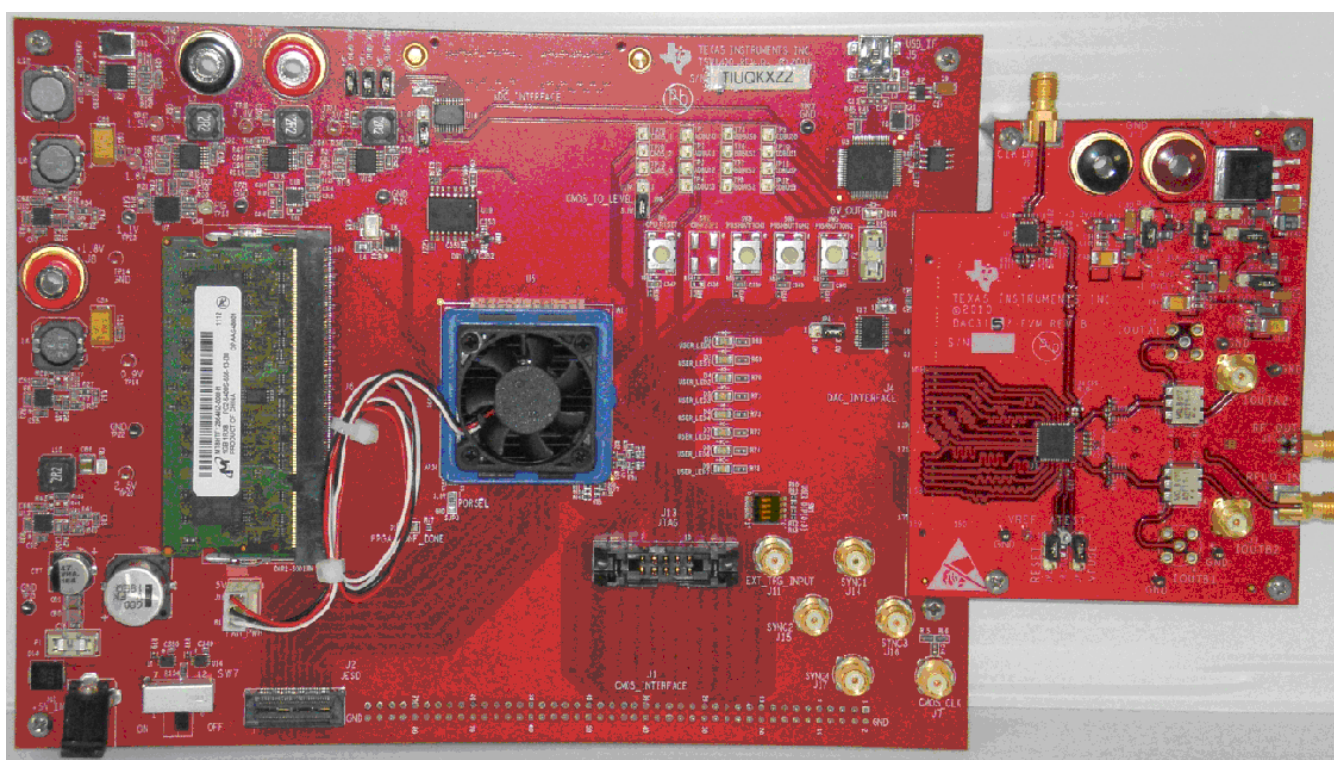

Figure 27. TSW1400 EVM Interfacing to a DAC EVM
- A TSW1400 EVM connected to a DAC3152 EVM is shown in Figure 27.